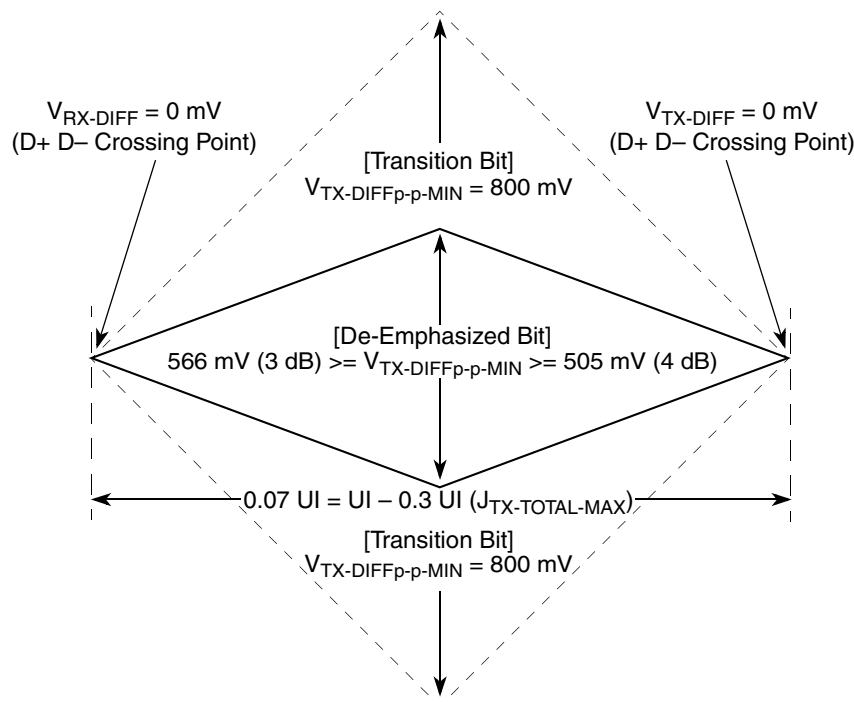
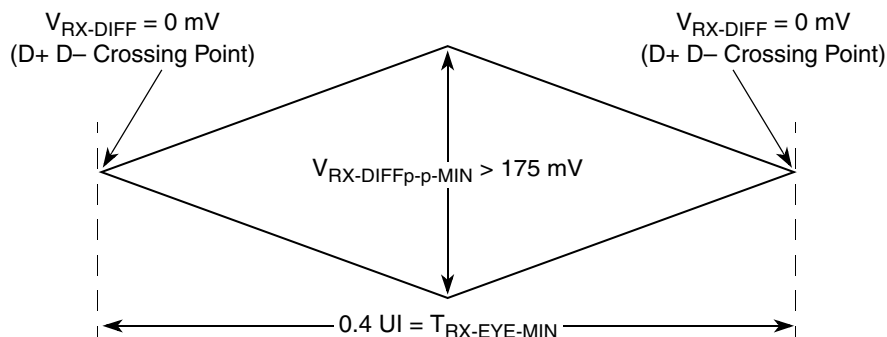
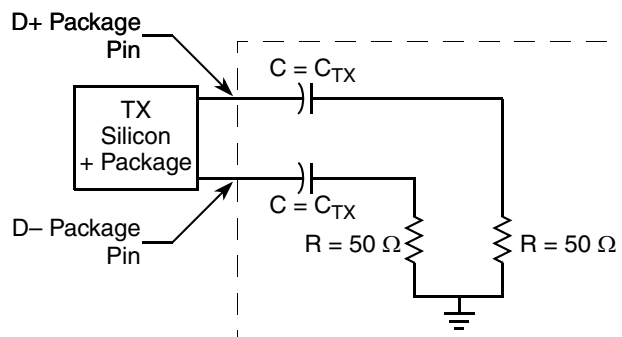

Figure 48. Minimum Transmitter Timing and Voltage Output Compliance Specifications
Figure 49. Minimum Receiver Eye Timing and Voltage Compliance Specification
Figure 50. Compliance Test/Measurement Load
2. Specified at the measurement point into a timing and voltage compliance test load as shown in Figure 50 and measured over any 250 consecutive TX UIs. (Also see the transmitter compliance eye diagram shown in Figure 48.)
4. The transmitter input impedance shall result in a differential return loss greater than or equal to 12 dB and a common mode return loss greater than or equal to 6 dB over a frequency range of 50 MHz to 1.25 GHz. This input impedance requirement applies to all valid input levels. The reference impedance for return loss measurements is 50 Ω to ground for both the D+ and D– line (that is, as measured by a vector network analyzer with 50- Ω probes—see Figure 50). Note that the series capacitors C_{TX} is optional for the return loss measurement.
5. Measured between 20%–80% at transmitter package pins into a test load as shown in Figure 50 for both $V_{\text{TX-D+}}$ and $V_{\text{TX-D-}}$.
The TX eye diagram in Figure 48 is specified using the passive compliance/test measurement load (see Figure 50) in place of any real PCI Express interconnect +RX component.
2. Specified at the measurement point and measured over any 250 consecutive UIs. The test load in Figure 50 must be used as the RX device when taking measurements (also see the receiver compliance eye diagram shown in Figure 49). If the clocks to the RX and TX are not derived from the same reference clock, the TX UI recovered from 3500 consecutive UI must be used as a reference for the eye diagram.
4. The receiver input impedance shall result in a differential return loss greater than or equal to 15 dB with the D+ line biased to 300 mV and the D– line biased to –300 mV and a common mode return loss greater than or equal to 6 dB (no bias required) over a frequency range of 50 MHz to 1.25 GHz. This input impedance requirement applies to all valid input levels. The reference impedance for return loss measurements for is 50 Ω to ground for both the D+ and D– line (that is, as measured by a vector network analyzer with 50- Ω probes—see Figure 50). Note: that the series capacitors CTX is optional for the return loss measurement.
The RX eye diagram in Figure 49 is specified using the passive compliance/test measurement load (see Figure 50) in place of any real PCI Express RX component.
Note: In general, the minimum receiver eye diagram measured with the compliance/test measurement load (see Figure 50) is larger than the minimum receiver eye diagram measured over a range of systems at the input receiver of any real PCI Express component. The degraded eye diagram at the input receiver is due to traces internal to the package as well as silicon parasitic characteristics which cause the real PCI Express component to vary in impedance from the compliance/test measurement load. The input receiver eye diagram is implementation specific and is not specified. RX component designer must provide additional margin to adequately compensate for the degraded minimum receiver eye diagram (shown in Figure 49) expected at the input receiver based on some adequate combination of system simulations and the return loss measured looking into the RX package and silicon. The RX eye diagram must be aligned in time using the jitter median to locate the center of the eye diagram.
The reference impedance for return loss measurements is 50. to ground for both the D+ and D– line (that is, as measured by a vector network analyzer with 50-Ω probes—see Figure 50). Note that the series capacitors, CTX, are optional for the return loss measurement.
The AC timing and voltage parameters must be verified at the measurement point, as specified within 0.2 inches of the package pins, into a test/measurement load shown in Figure 50.